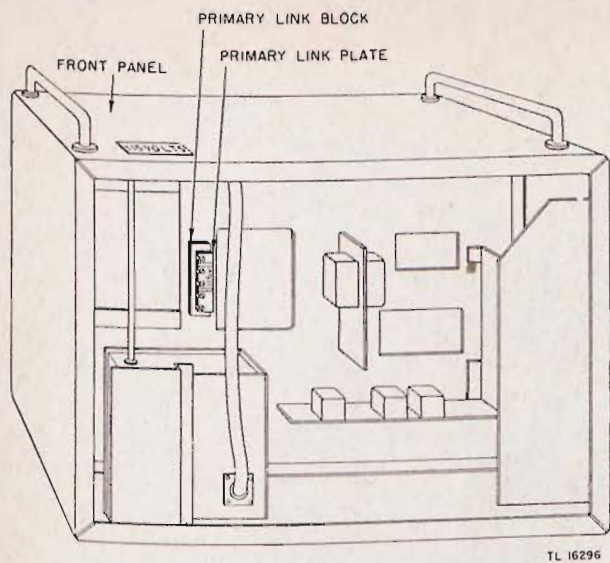

Figure 52. Radio Receiver R-48/TRC-8 (XC-3), primary link plate.
(5) Ground all transmitters by connecting the binding post marked SH-GROUND to a stake GP-25 driven into moist earth. Remove the lightning arresters at relay stations since spiral-four cable is not used.
a. Both the transmitter and the receiver can be operated on either 115-volt or 230-volt alternating current. A primary link plate is located on the underside of the receiver and power pack chassis (figs. 52 and 53). One side of this link plate is marked 115 V and the other side is marked 230 V. The links on this plate and the connections to the primary windings of the power transformers are so arranged that when the plate is bolted in position with the 115 V marking showing, the primary windings are automatically hooked up for 115-volt operation. When this plate is removed and then replaced with the 230 V marking showing, the primary windings are automatically hooked up for 230-volt operation. A separate line voltage plate on the front panel of the receiver, and on the front panel of the power pack, indicates in which position (115 V or 230 V), the link plate is bolted, and thus the line voltage at which the equipment will operate. This plate is marked 115 VOLTS on one side, and 230 VOLTS on the
- (1) Throw POWER ON-OFF switch, to OFF position.
- (2) Remove bottom plate on receiver housing.
- (3) Loosen five screws on primary link plate (fig. 52).
- (4) Slide out the primary link plate, turn it over, and replace it with the desired primary voltage showing.
- (5) Tighten the five screws securely.
- (6) Remove the two screws and nuts holding the 115 VOLTS—230 VOLTS line voltage plate to the front panel, and replace the plate, so that the line voltage showing is the same as that on the primary link plate. Bolt the plate in position securely.
- (7) Replace the bottom of the receiver housing. The unit is now ready for the line voltage operation indicated.